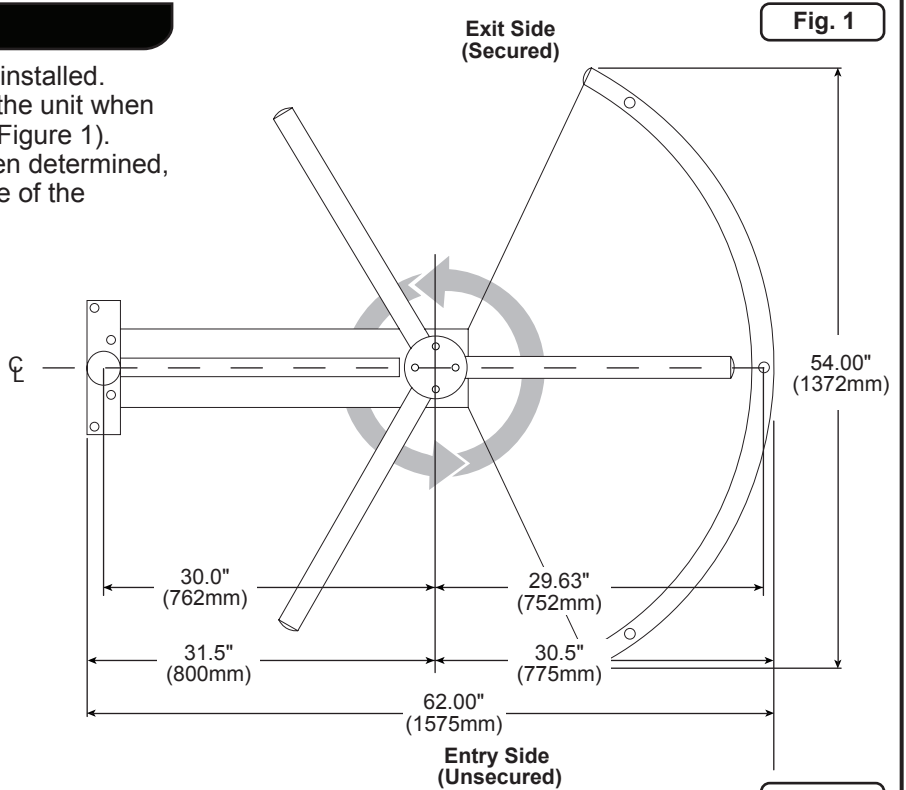

Fig. 1
1. Determine where the turnstile will be installed. Consider the overall footprint size of the unit when determining the installation location (Figure 1). Once the installation location has been determined, use a chalk line to mark the centerline of the turnstile.